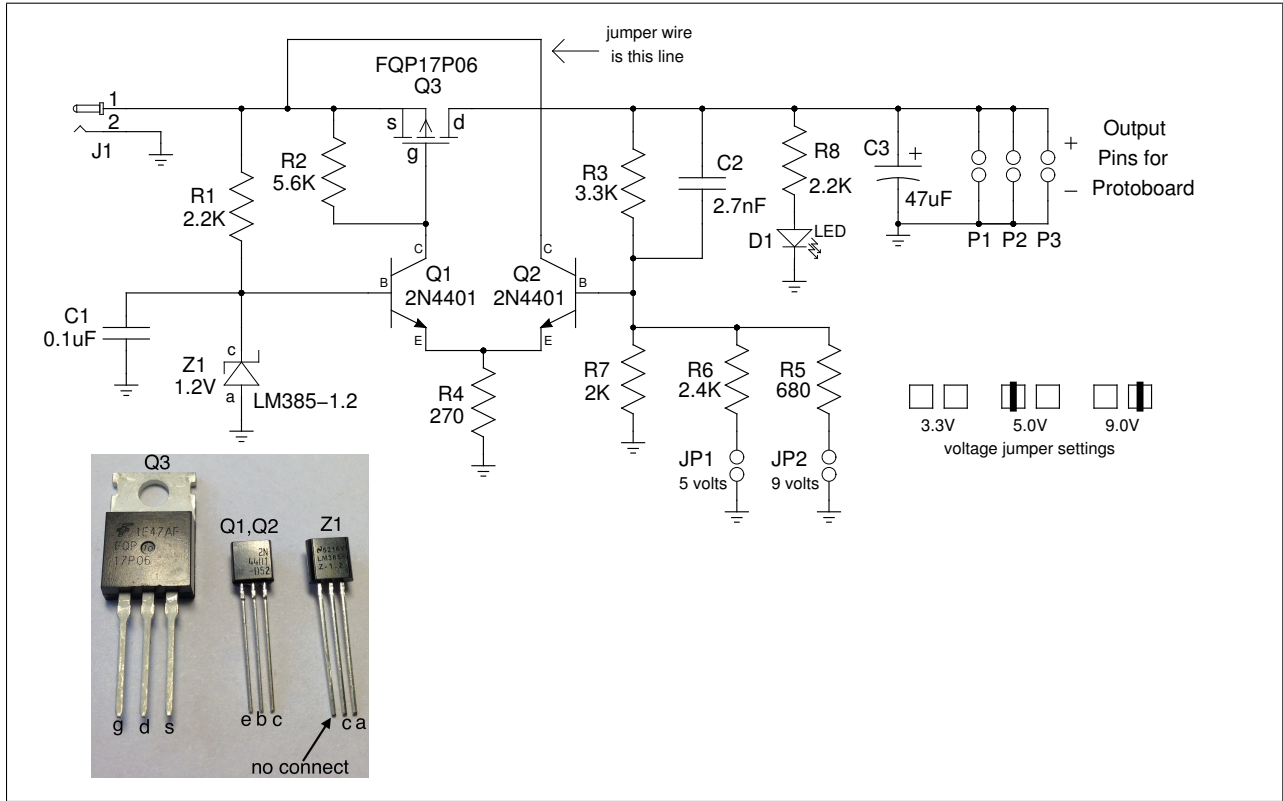
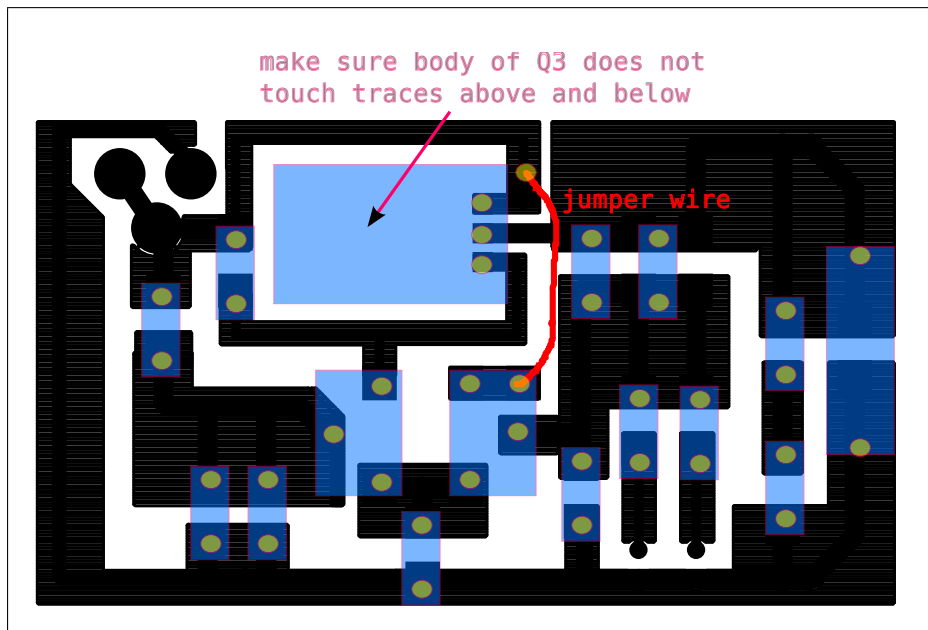

Figure 2: Power Supply Schematic
Figure 3: PCB Top Copper Layout
1. Using the schematic diagram in figure 2 and the layout of the printed circuit board (PCB) in figure 3, determine where all the parts go on the PCB. Do this before you come to lab. This will take some time.
Referring to figure 3, for each component to be mounted, there is a light blue rectangle or square. For each solder joint there is a small greenish oval marking the approximate position for soldering the component down. Starting with the power connector at the top left, work your way around the board and mark what component each blue rectangle represents and its value. You may want to put a value or schematic symbol for each component. You could even tape the components to the page one-by-one and draw a line to where they are to go.
This may take some time. One hint is to realize the ground trace is at the bottom of the board as shown in figure 3. Another hint is to realize the board is patterned similarly to the way the schematic diagram is drawn with only small changes. When you have all the parts mapped out,